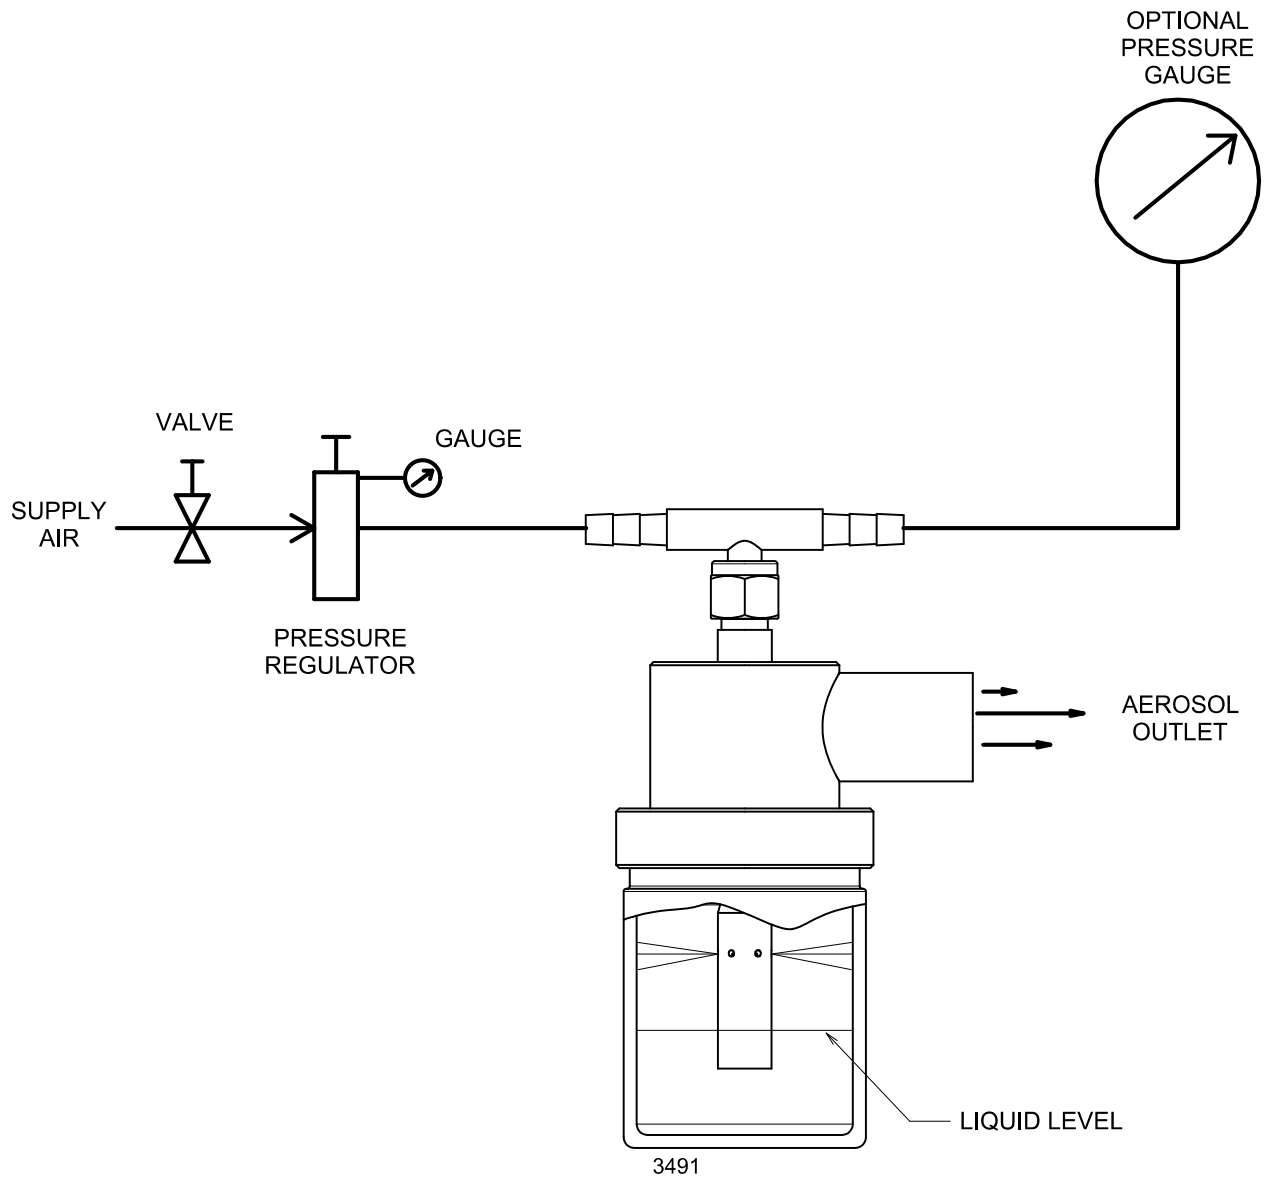
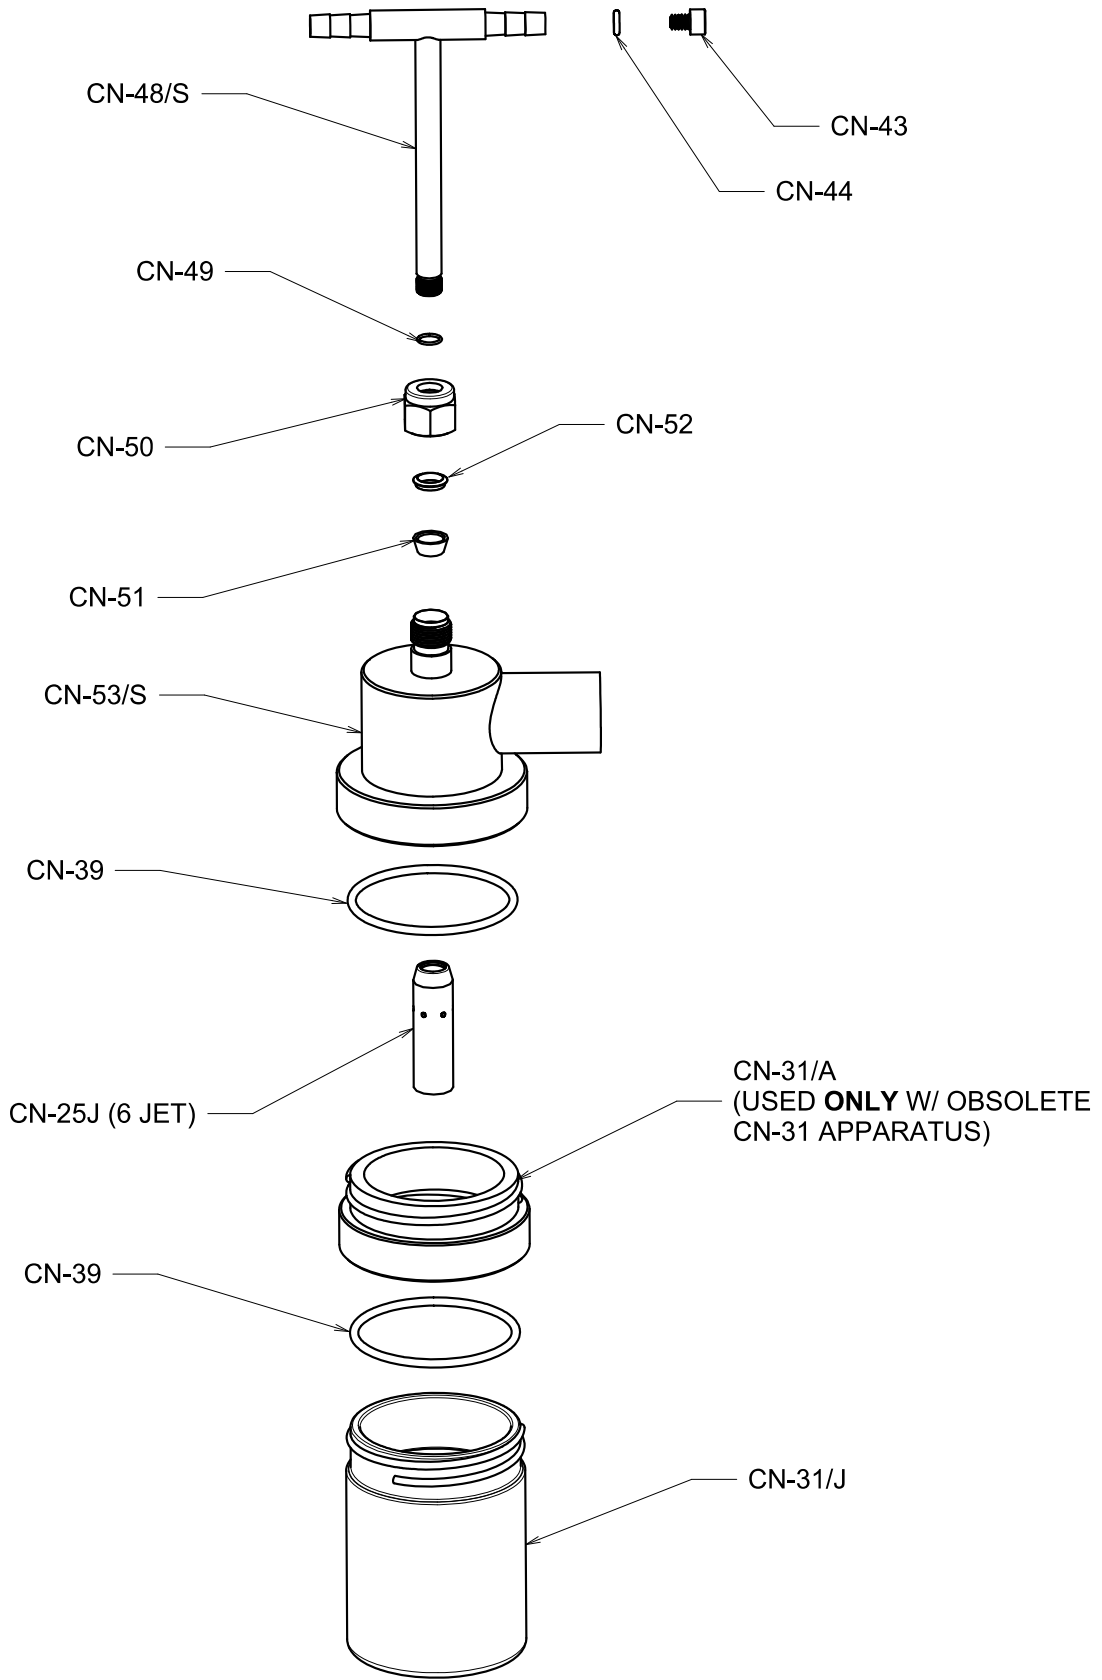

FIGURE 1. SCHEMATIC DIAGRAM OF NSF COLLISION NEBULIZER
FIGURE 2. EXPLODED VIEW OF NSF COLLISON NEBULIZER
It is recommended that a precision pressure gage be fitted to the plugged end of the “T”. This may be accomplished by removing the plug screw, by hand. A schematic diagram of the basic set up is shown in figure 1. All parts are shown in Figure 2.
5.0 Component Parts List – Fig. 2